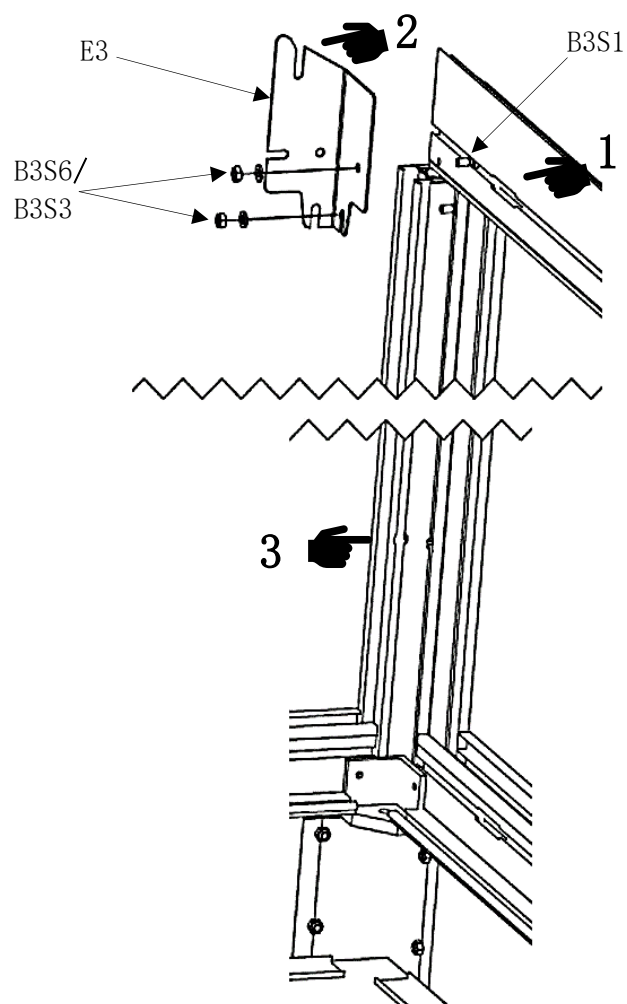

fig. 16
- 1 insert hexagon bolt M6x12 (item B3S1) into the milled groove of the AG-eaves-profile and position with washer (item B3S6) and hexagon nut (item B3S4) not firmly with the eaves corner connector on the right (item E3). (fig. 16)
- 3 insert an M6x12 hexagon bolt (item B3S1) into the hole on the underside of the corner profile, pull it upwards and position it with a washer (item B3S6) and a hexagon nut (item B3S4) with the right-hand eaves corner connector (item E3). (fig. 16)